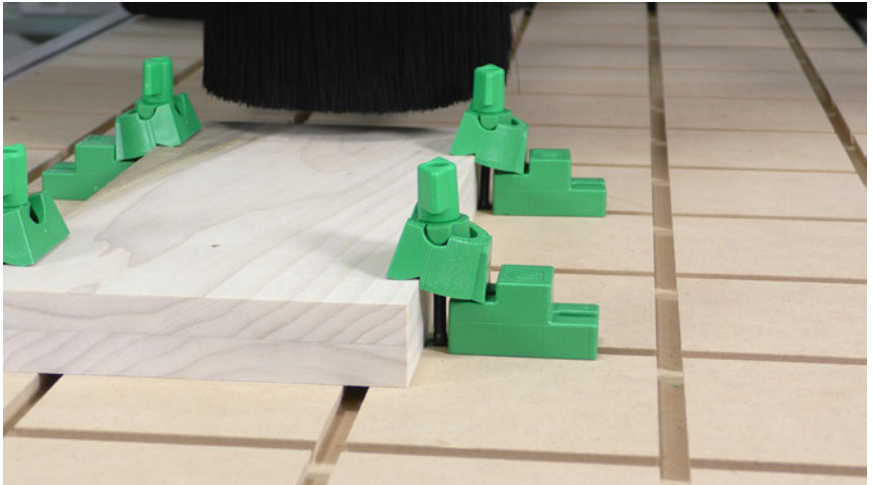

Fig 8d - U-Pad high
- 8.6.** Parts thicker than 7/8" (22mm) require the taller end of the riser block 4C to be set under the pad 4A. Tighten the wing nut to apply the needed pressure. (Fig 8d)